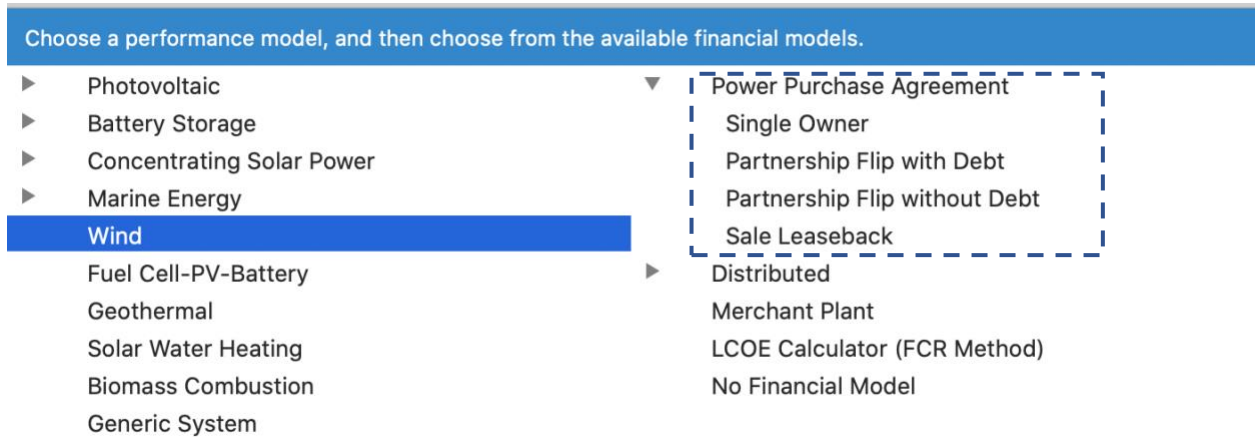

Figure 1: Startup Screen in SAM. Choose a financial model with the Power Purchase Agreement dropdown when you want to run LandBOSSE
1. LandBOSSE in SAM currently only runs for 11 or more turbines, and for turbine ratings in the range of 1 thru 8 MW machine ratings. Accordingly, when running the Wind technology model in SAM, make sure to only select a financial model within the *Power Purchase Agreement* dropdown (Figure 1).